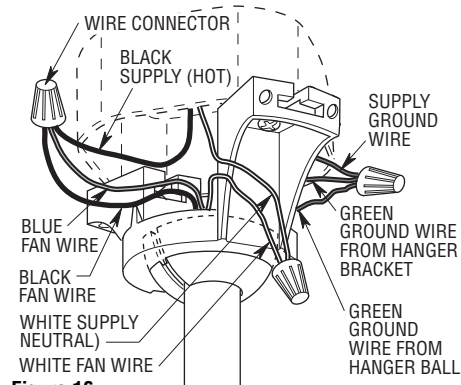

Figure 16
- 1. Connect the green grounding lead from the hanger ball and the green grounding lead from the hanger bracket to the grounding conductor of supply (this may be a bare wire or wire with green colored insulation) (Figure 16). Securely connect wires using wire connectors supplied.
- 2. Securely connect the fan motor white wire to the supply white (neutral) wire using wire connector supplied (Figure 16). Securely connect the fan motor black wire and blue wire to the supply black (hot) wire using wire connector supplied (Figure 16). After connections have been made, turn leads upward and carefully push leads into the outlet box, with the white and green leads on one side of the outlet box and the black and blue leads on the other side of the outlet box.